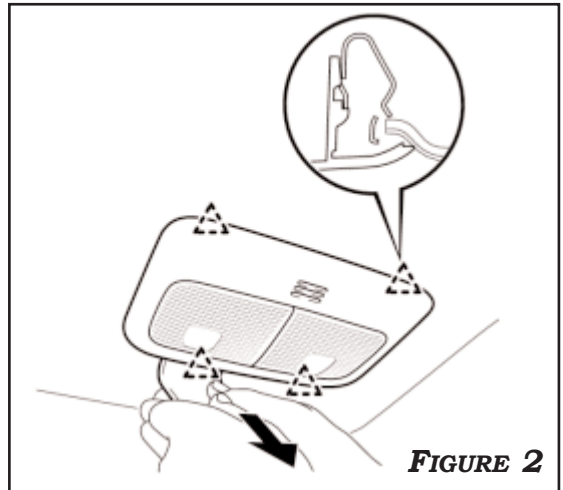

FIGURE 2
2. USE A TRIM TOOL TO DISENGAGE THE 4 CLIPS AND DISCONNECT THE CONNECTOR TO REMOVE THE MAP LIGHT ASSEMBLY. **FIGURE 2**